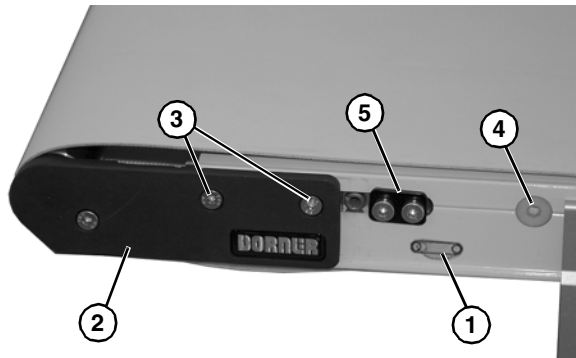

Figure 47
1. On tension end of the conveyor, identified with a  label (**Figure 47, item 1**), adjust head plate assembly (**Figure 47, item 2**): On both sides of conveyor, loosen fastening screws (**Figure 47, item 3**) and rotate pinion gear (**Figure 47, item 4**) to adjust head plate assembly.
2. Adjust head plate assembly so end of conveyor frame aligns with first tensioning mark (**Figure 48, item 1**). Tighten fastening screws (**Figure 47, item 2**) on both sides of conveyor to 60 in-lb (7 Nm).
3. If equipped with cam tracking assemblies (**Figure 47, item 1**), reposition against head plates and adjust belt tracking. Refer to "Conveyor Belt Tracking", page 20.